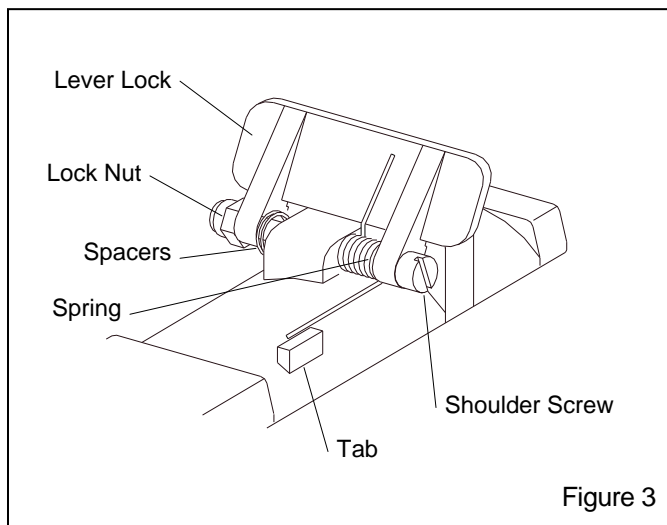

Figure 3
4.4 Lever Lock Replacement, Figure 3
4.4.1 Remove the lock nut from the shoulder screw. Before removing the screw, note the positions of the spacers and spring, as shown in Figure 3. The bent end of the spring is toward the inside and forcing the lever lock up. The straight end is toward the outside facing down and against the tab.